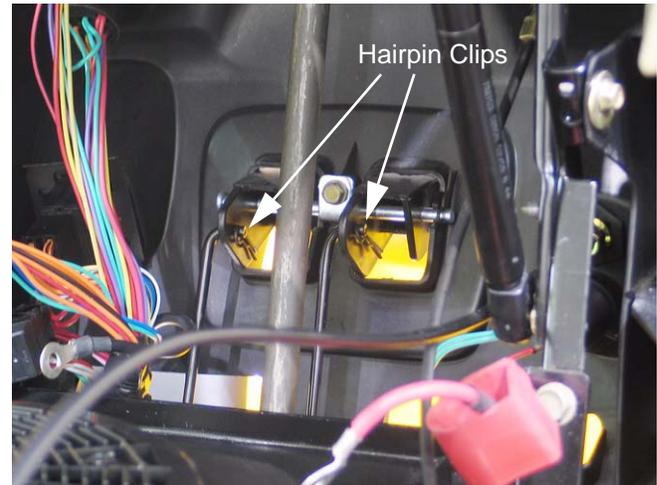

Figure 16.4
- 16.4. Remove the hair pin clips holding the linkages to the levers in the dash. See Figure 16.4.